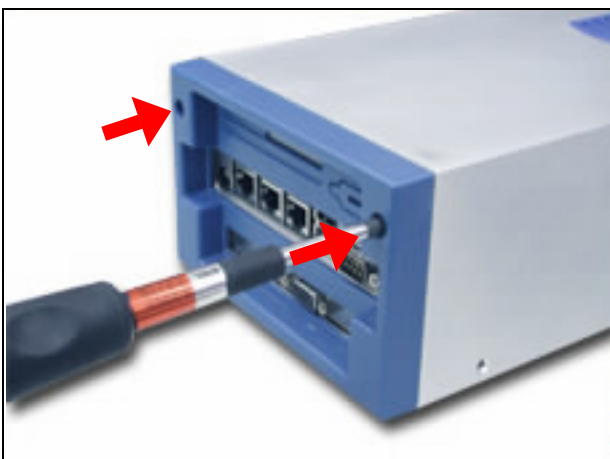

Fig. 2-42 Lock the back panel
10. To finish up installation, drive two screws to lock up the back panel to chassis (*Fig. 2-42*).